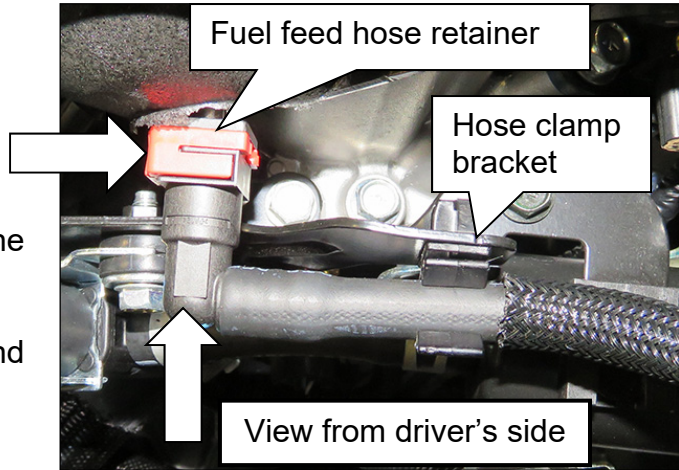

Figure 7
7. Verify the fuel feed hose is secured in the hose clamp bracket shown in Figure 7.